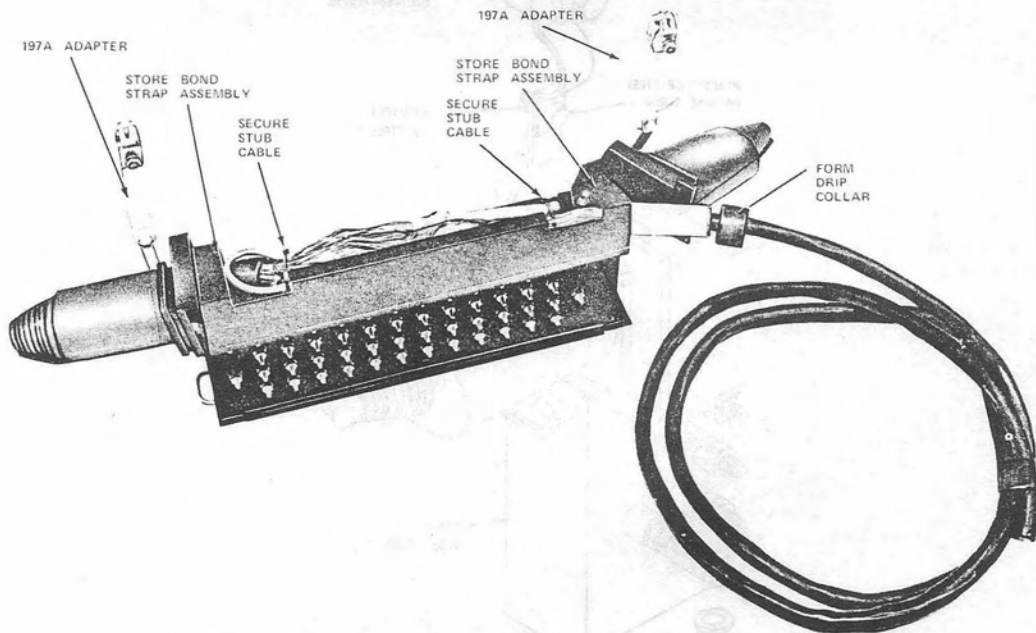

Fig. 3—Placing Terminal Stub in 105-Type Cable Terminal
- (1) Place 1A1 or 1B1 terminal stub behind partition on terminal panel assembly. Store bond strap assembly by taping to 1A1 or 1B1 terminal stub with half-lapped layer of vinyl tape. Store bond strap assembly on unused end of terminal in cable boot (Fig. 3).
- (3) Perform splicing operation as required. Secure 1A1 or 1B1 terminal stub to 105-type cable terminal stub (Fig. 3).
- (4) Form drip collar of two laps of B sealing tape covered with two laps of vinyl tape. Locate on inner side of bond clamp inside cable boot (Fig. 3).